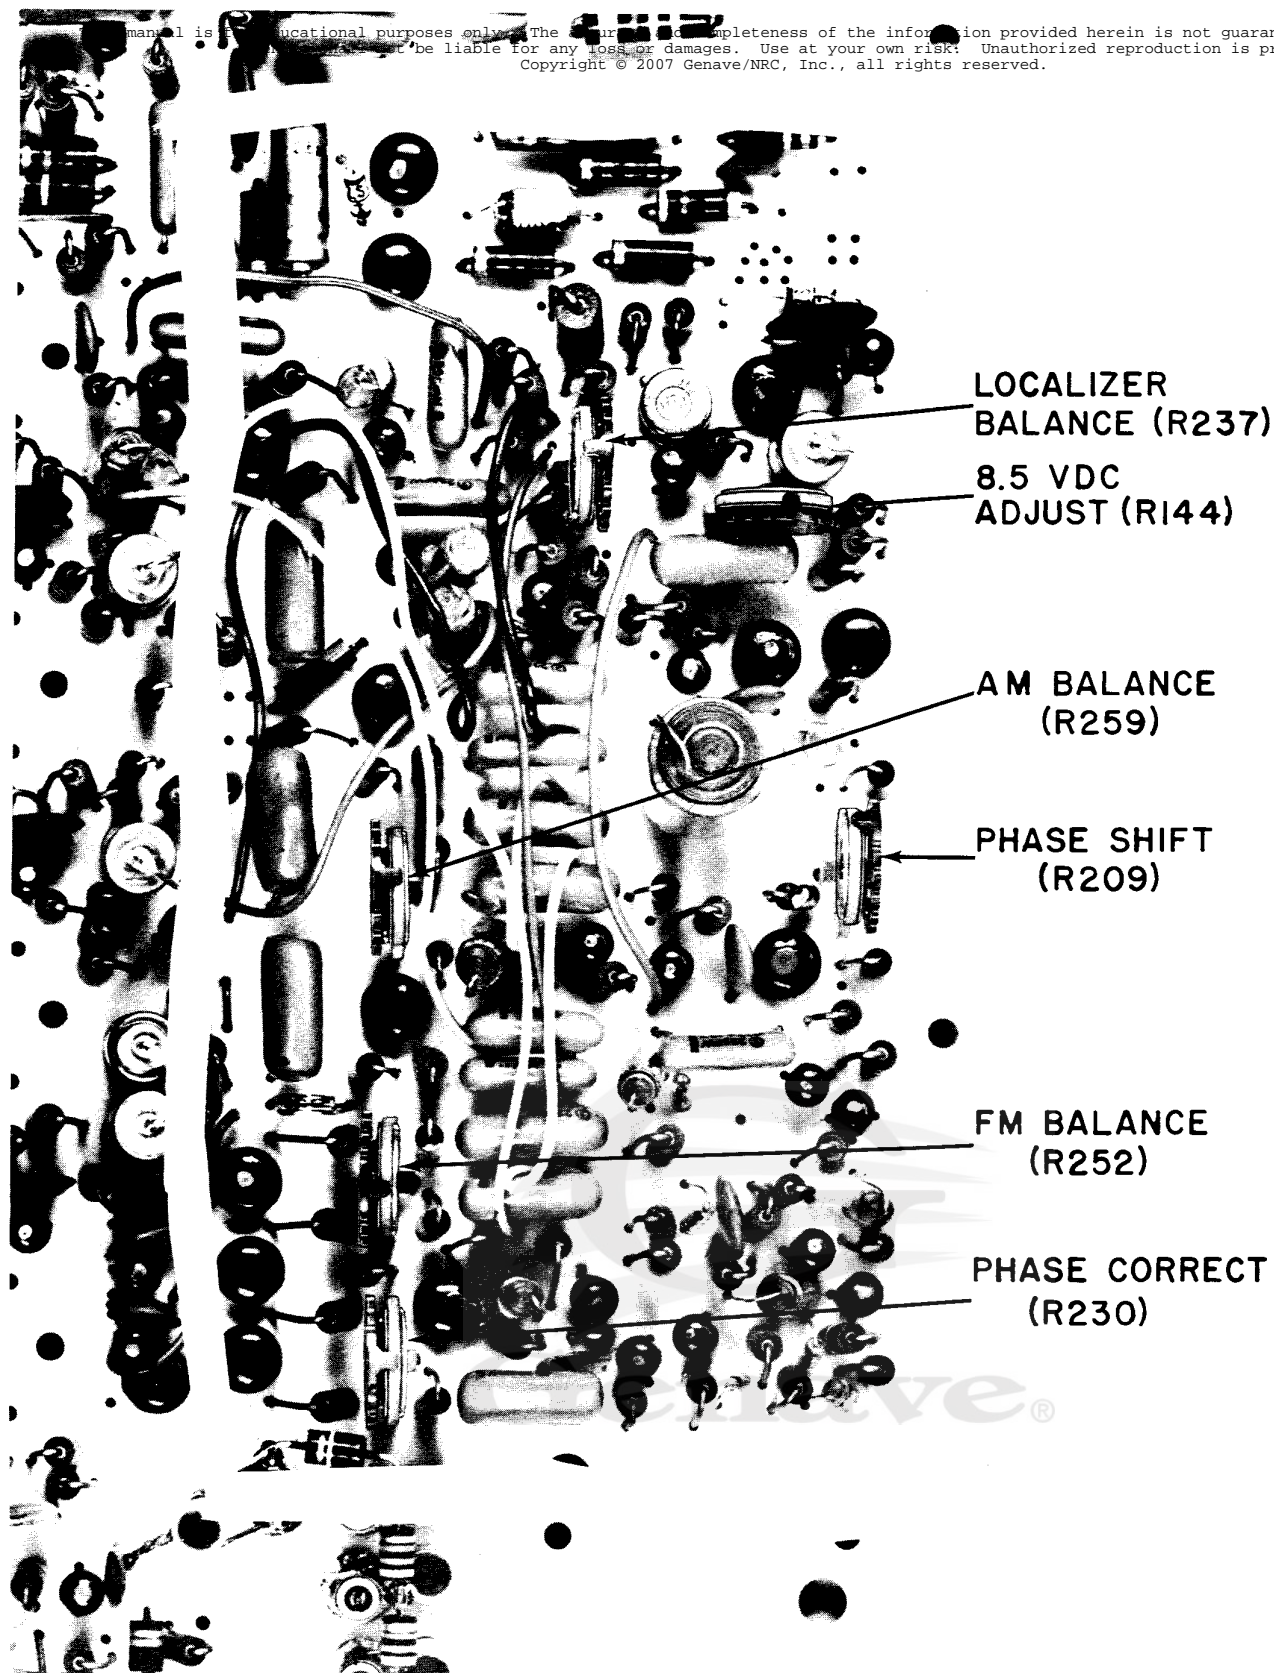

Figure 4-4-13
5. Delete the 9960 Hz modulation of the carrier. Adjust R259, AM BALANCE, for a centered meter (see figure 4-4-13).